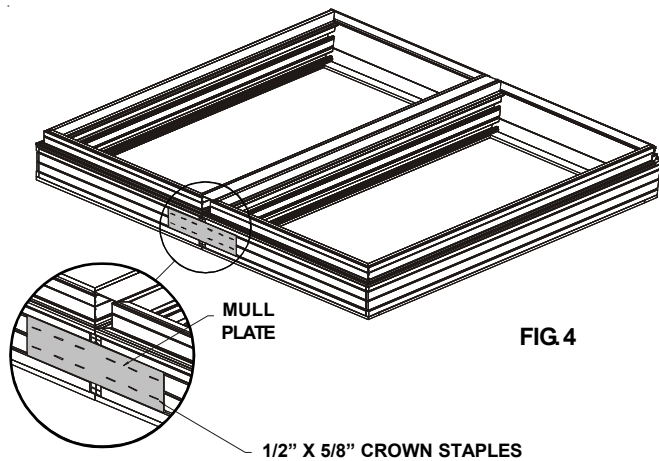

FIG. 4
- Attach the mullion reinforcement plate across the mull at the head jamb and fasten with 1/2" x 5/8" crown staples. Use six staples on each side of the mull joint. See Fig. 4